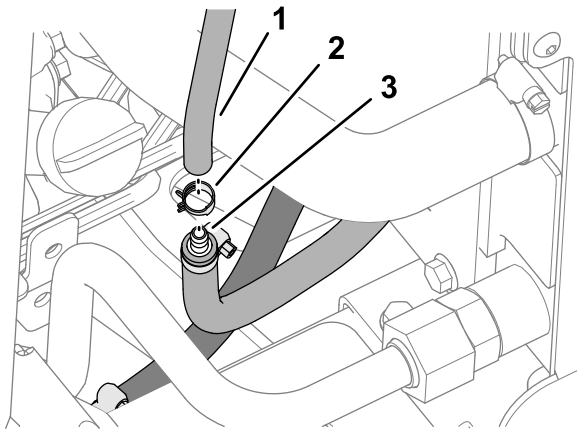

Figure 18
2. Route the other end of the fuel filter hose to the other fuel-cooler hose (Figure 18).
3. Assemble the fuel filter hose and a spring-type hose clamp onto the barb hose connector of the outboard fuel-cooler hose (Figure 18).